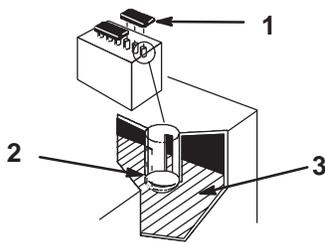

Figure 40
1. Open covers to see into the cells. The electrolyte must be up to the lower part of the tube (Fig. 40).
IMPORTANT: Do not allow the electrolyte to get below the plates. (Fig. 40).
2. Lift off the filler caps (Fig. 40).
3. Slowly pour distilled water into each battery cell until the level is up to the lower part of the tube (Fig. 40).